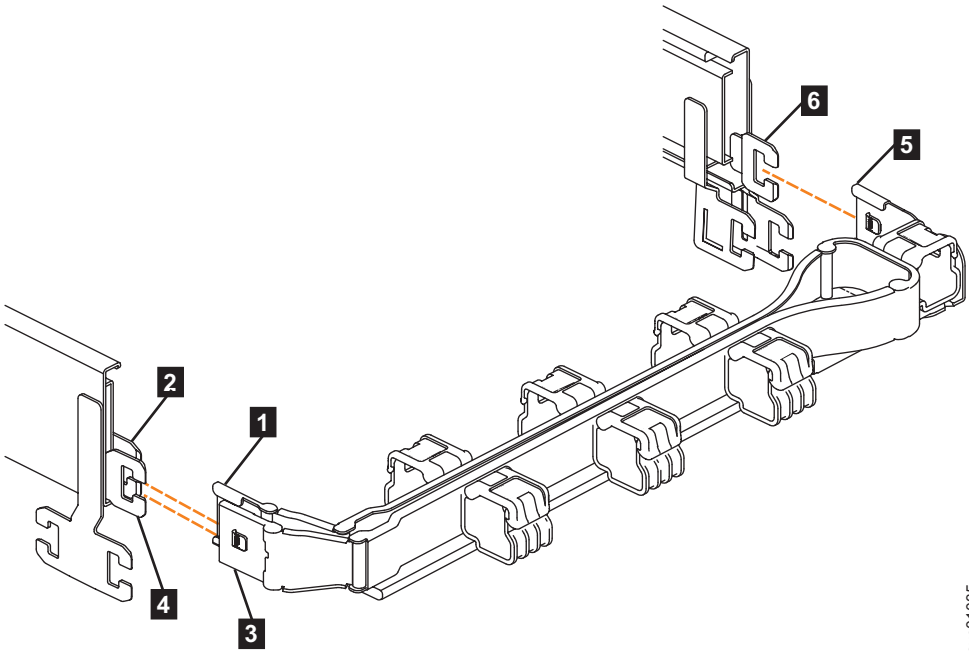
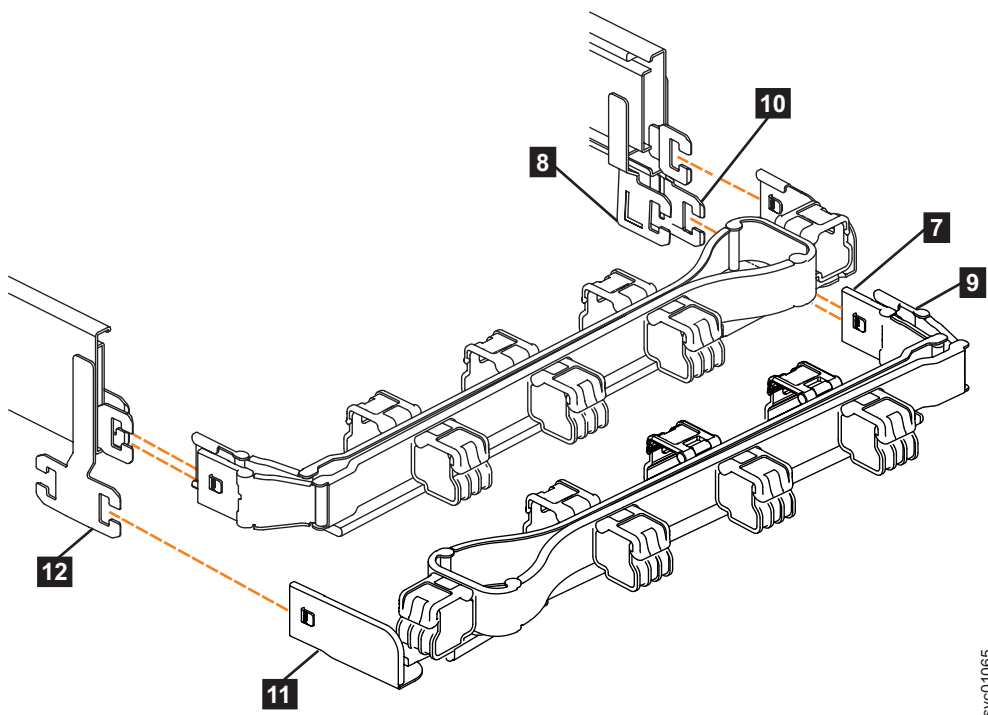

Figure 43. Connectors for the upper cable management arm
Figure 44. Components of the lower CMA assembly
The connectors of the CMA are installed on the rail hooks at the end of the support rails. Figure 43 on page 65 shows the connectors on the upper CMA assembly.
1. Press the latch on the connector base on the upper CMA assembly (**5** in Figure 43).
2. Pull the connector to remove it from the connector base on the right support rail (**6** in Figure 43).
3. Press the latch on the outer connector of the upper CMA assembly (**3** in Figure 43).
4. Remove the outer connector from the inner member of the left support rail (**4** in Figure 43).
5. Remove the inner connector of the upper CMA assembly (**1**) from the inner member of the left support rail (**2**), as shown in Figure 43.
Note: The procedure for removing the lower CMA assembly is the same as the procedure to remove the upper CMA assembly. However, the connector locations are reversed. For example, the connector base of the upper CMA (**5** in Figure 43) connects to the right rail. The connector base of the lower CMA (**11** in Figure 44 on page 66) attaches to the left rail.
6. Remove the connector base on the lower CMA assembly (**11**) from the connector on the left support rail (**12**), as Figure 44.
7. Remove the inner connector of the lower CMA assembly (**9**) from the outer member of the right support rail (**10**), as shown in Figure 44.
8. Remove the outer connector of the lower CMA assembly (**7**) from the inner member of the right support rail (**8**), as shown in Figure 44.